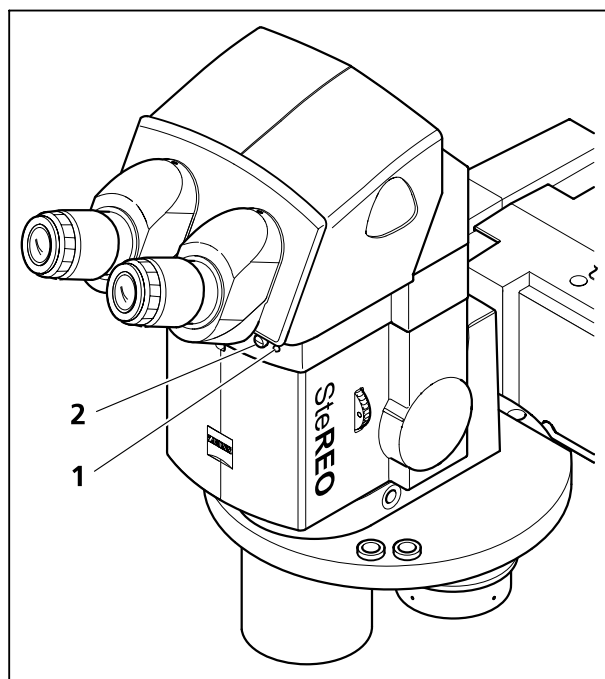

Fig. 51 **Intermediate tube S mot. with analyzer**
- Press the button (Fig. 51/2) briefly to swing the polarization filter into/out of the light path. If the filter is active, the blue LED (Fig. 51/1) at the front of the intermediate tube with analyzer is lighting.